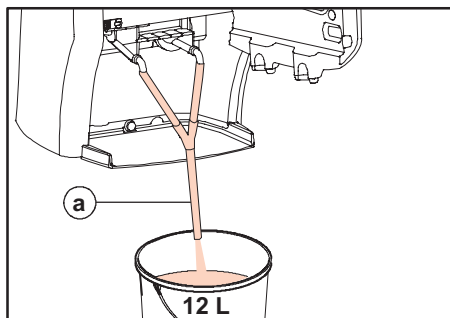

Fig. 80 Hose set on beverage outlets
16. Slide the hose set supplied onto both beverage outlets (fig. 80 a).